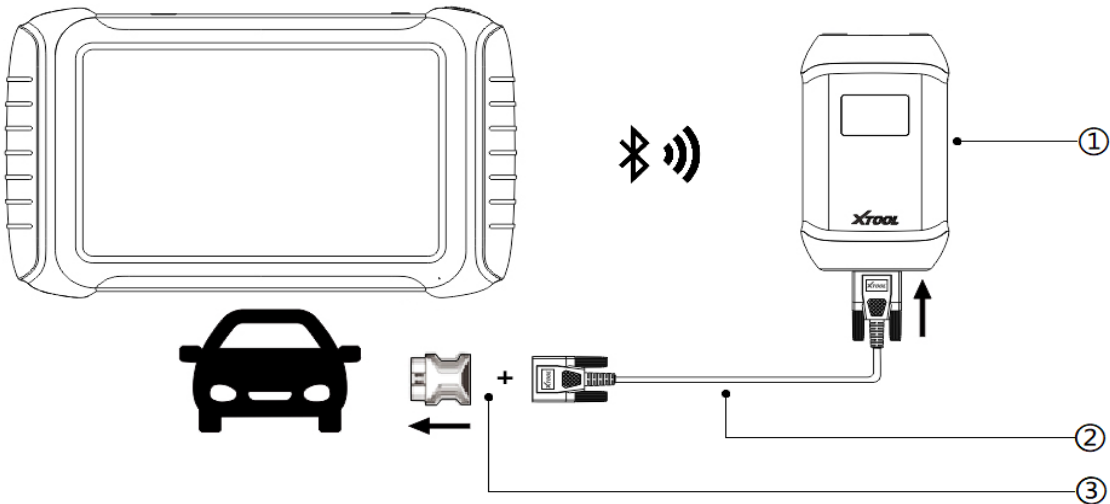

Figure 4-1 Sample of How to Connect Device to Vehicle via Bluetooth
① Data Cable for USB 3.0 to Type B; ② V204 BOX ;③ Main Test Cable; ④ OBD Adapter;
2. Connect the vehicle, the VCI box, and the tablet following the diagram below (Figure 4-1 & Figure 4-2). Usually, the OBD port is located under the dashboard, inside the driver's footwell.